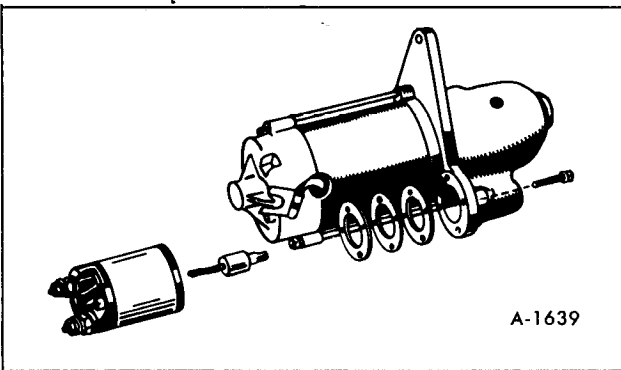

Figure 50—Removing Solenoid
2. Loosen the retaining screws and remove the solenoid from the front bracket. Simultaneously, the fiber washers, the return spring and the solenoid plunger will be removed (figure 50).